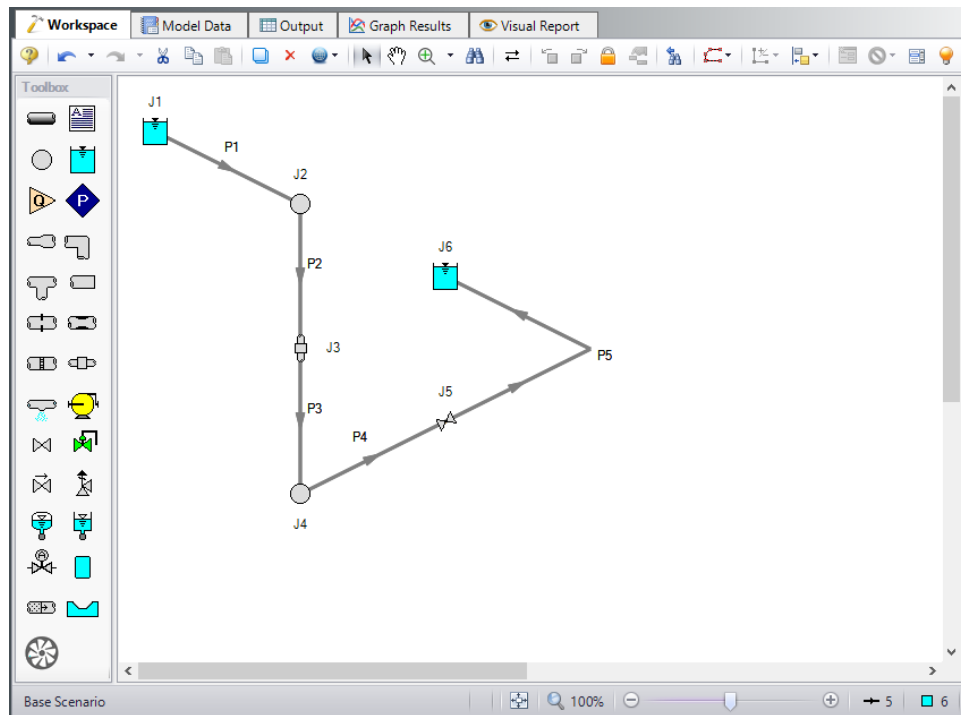

Figure 2: Layout of gravity drain system with Isometric grid turned off
5. The grid can be shown or turned off in the Arrange menu, as shown in Figure 2.